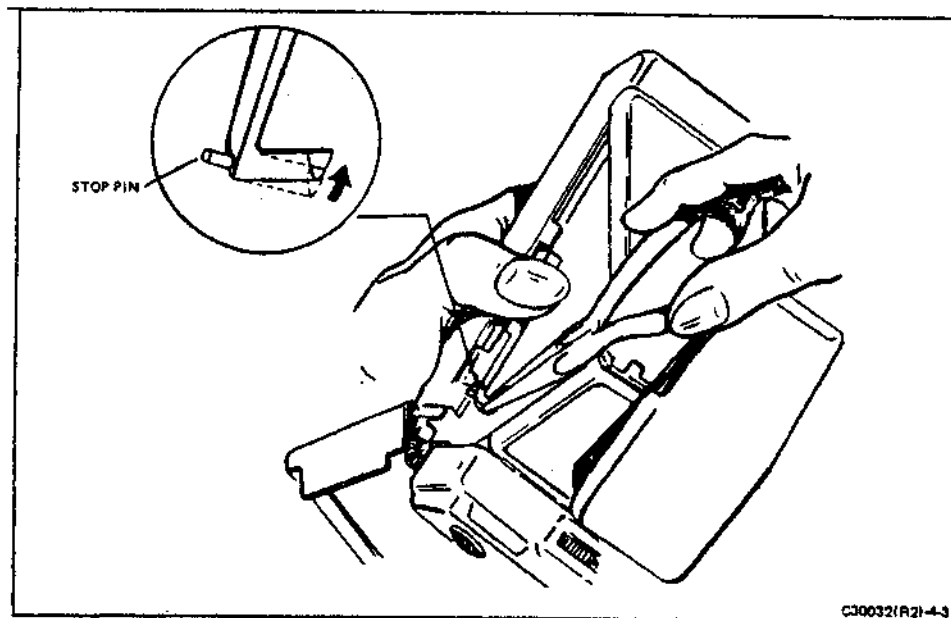

FIGURE 4-3 BENDING THE STOP LATCH
- (3) With the latch depressed, use needle-nose pliers to bend the knife edge of the latch inboard (away from the front cover) slightly less than 90°, as shown in Figure 4-3.
- (4) Close the front cover and recheck; bend further if necessary.
- (5) With the front cover open, observe for a clearance between the latch and the 3rd idler gear.
- (6) Observe that the stop pin (see Figure 4-3) is not resting on the outer plate when the front cover is closed. When resting on the outer plate, the latch/front cover closing system will loosen from wear in a short time. Make the following observation: